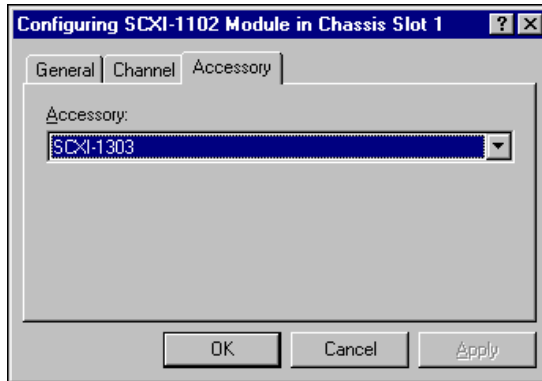

Figure 7. SCXI Module Accessory Tab
7. Click the **Accessory** tab shown in Figure 7. Set the **Accessory** option to SCXI-1303 and click **OK**.